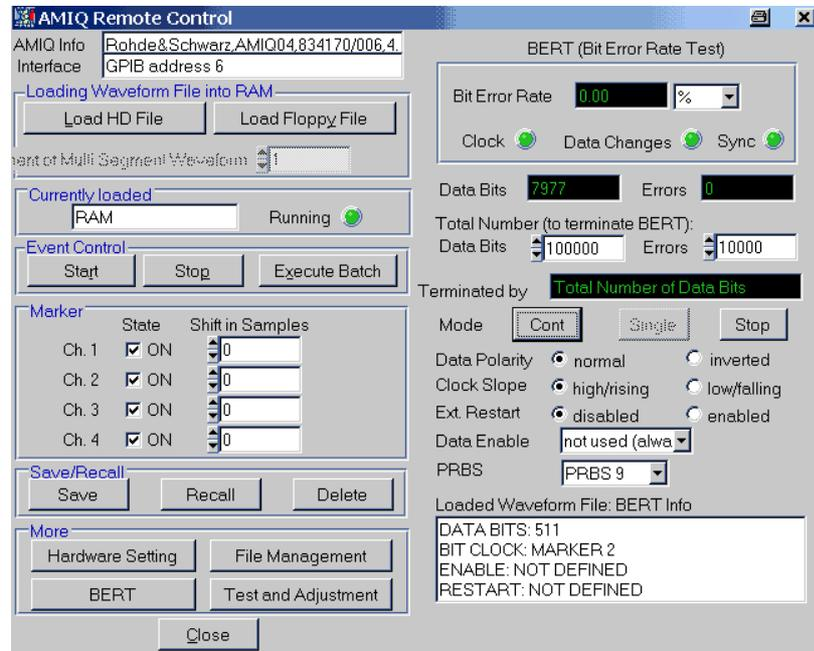

Figure 9: AMIQ Remote Control/BERT Settings
(5) Transmit the Settings to AMIQ
(6) From the AMIQ Remote Control/BERT menu setup parameters as: Data Bits, Errors, Data Polarity, Clock Slope, Ext Restart, Data Enable and PRBS as set in Figure 9.